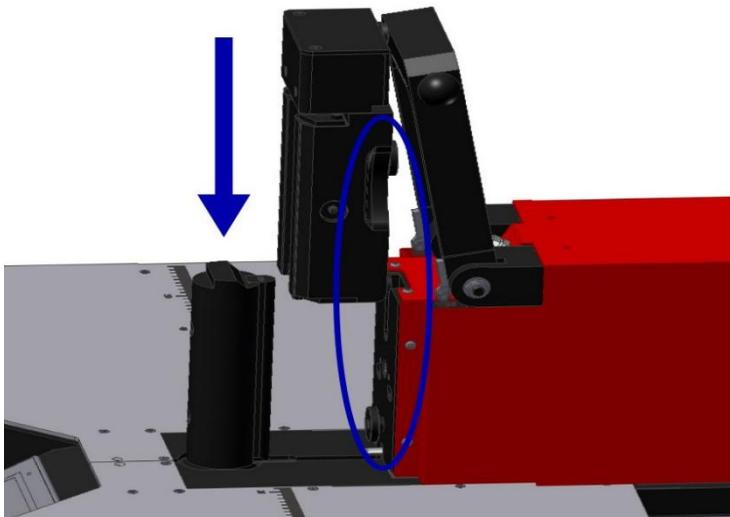
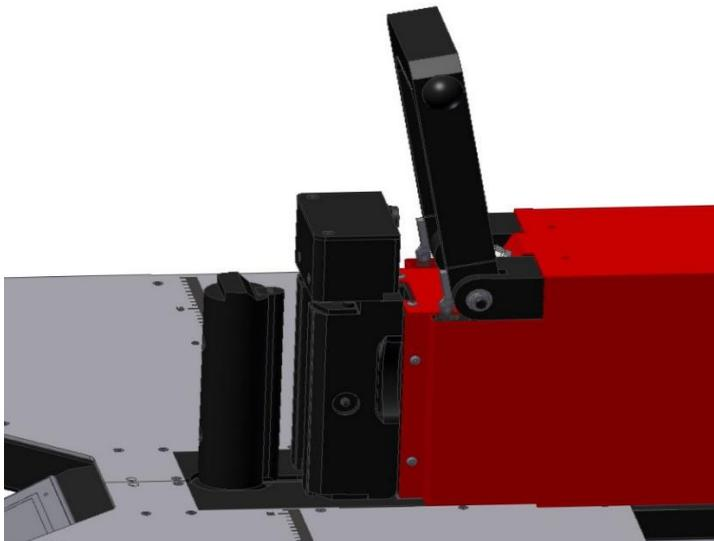

Fig. 31.
Fig. 32.
- Mount the bending insert using the guiding elements (fig. 31) (fig. 32).